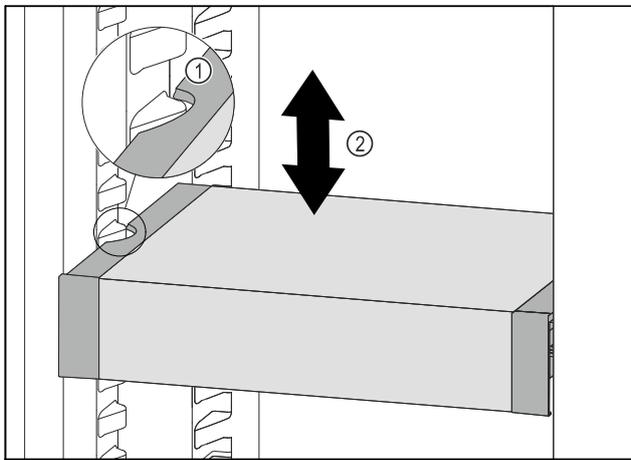

Fig. 104
- ▶ Pull VarioSafe forwards until the recesses in the side of the VarioSafe are at the level of the support rib in the refrigerator compartment. Fig. 104 (1)
- ▶ Move VarioSafe up or down in the refrigerator compartment until the desired height is reached. Fig. 104 (2)